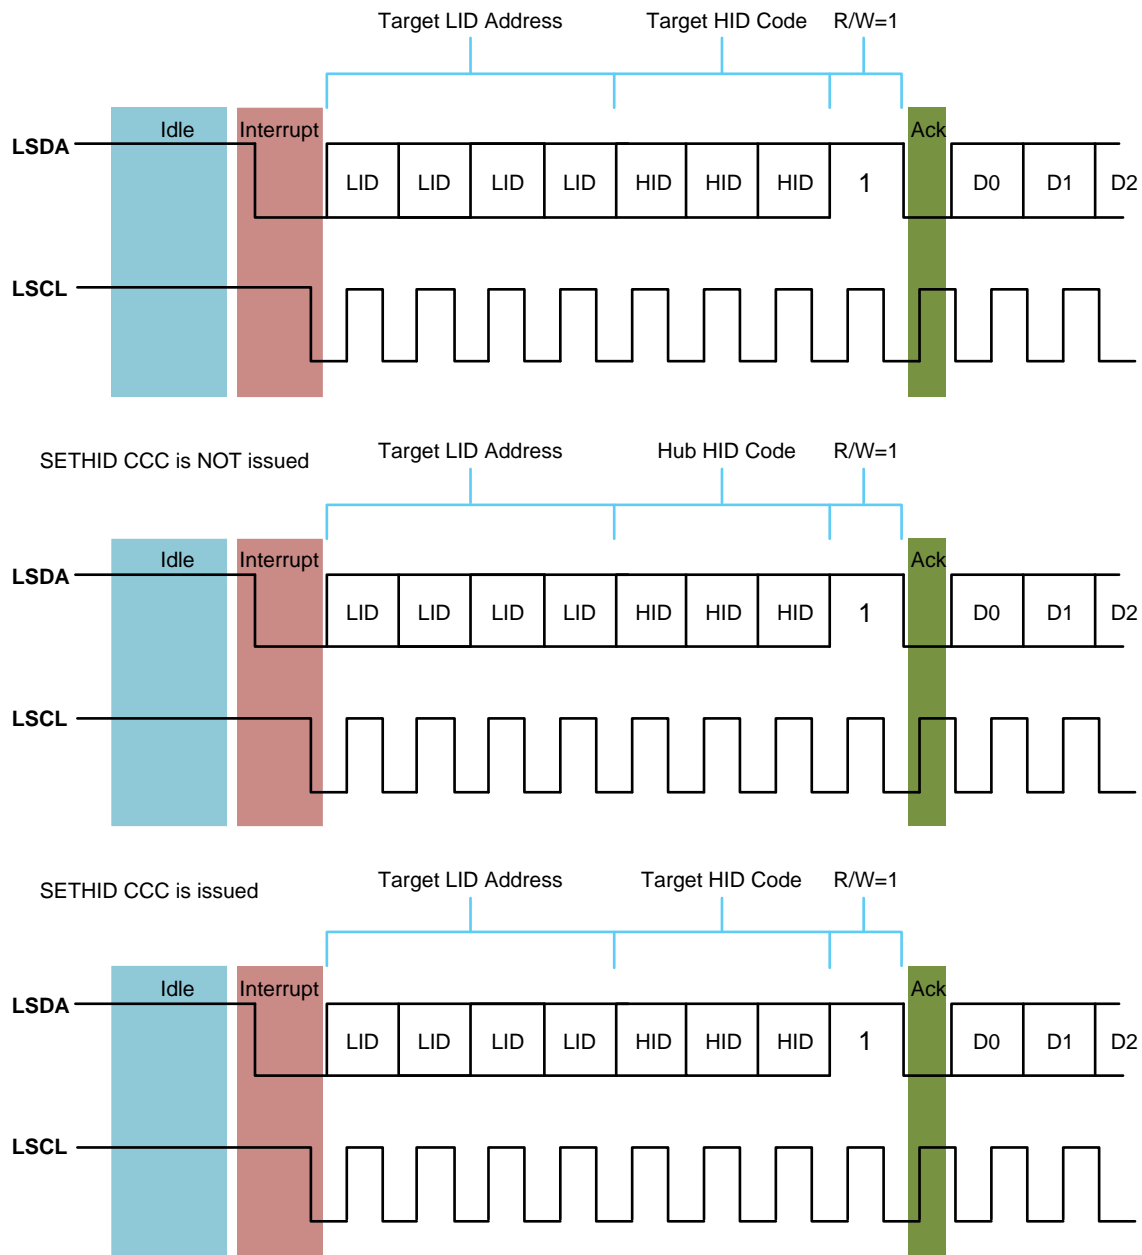

Figure 15. Local Device Interrupt, Host Ack followed by Target Device IBI Payload
If the local device detects no START condition but if the Host to the local Target device (through the SPD5 Hub device) bus (LSDA and LSCL) has been inactive (no edges seen) for t_{AVAL} period, then any local device may assert LSDA low by t_{IBI_ISSUE} time to request an interrupt. When the local device requests an interrupt, the SPD5 Hub device propagates the LSDA to HSDA to Host. The Host toggles the HSCL. The local device transmits its 7-bit binary address (LID bits followed by HID bits) followed by R/W bit = '1' to the SPD5 Hub device. This is shown in Figure 15 top waveform.
The SPD5 Hub device forwards LID bits it receives from the local device to the Host. The SPD5 Hub device substitutes its own HID code in place of the HID bits it receives from the local device and sends to the Host if Host has not issued SETHID CCC previously. This is shown in Figure 15 middle waveform. The SPD5 Hub device forwards HID bits it receives from the local device to the Host if Host has issued SETHID CCC previously. This is shown in Figure 15 bottom waveform. The SPD5 Hub device forwards the R/W bit = '1' to the Host.
- The Host sends ACK on 9th bit to accept the interrupt request. At this point, if the local device confirms that it has won the arbitration, the local device transmits the IBI payload as shown in Table 77 and Table 78 for PEC disabled and PEC enabled configuration respectively. See Figure 15. It just shows only first two data bits of MDB byte to illustrate the timing. The interrupt payload contains MDB followed by appropriate Target device error register contents in order. The Host then issues the STOP command. Note the timing waveform in Figure 15. The Host then accepts the IBI payload if it sends an ACK on 9th bit to accept the interrupt request. The Host can interrupt the IBI payload at 'T' bit. If Host stops the IBI payload at 'T' bit in the middle of payload, the local device retains the IBI status flag and Pending Interrupt Bits [3:0] internally and waits for the next opportunity to request an interrupt. If the local device successfully transmits the entire IBI payload, it then clears IBI status flag and Pending Interrupt Bits [3:0] = '0000' on its own and does not request for an IBI again unless there is another different event occurs; for another same event, the device does not request for an IBI.